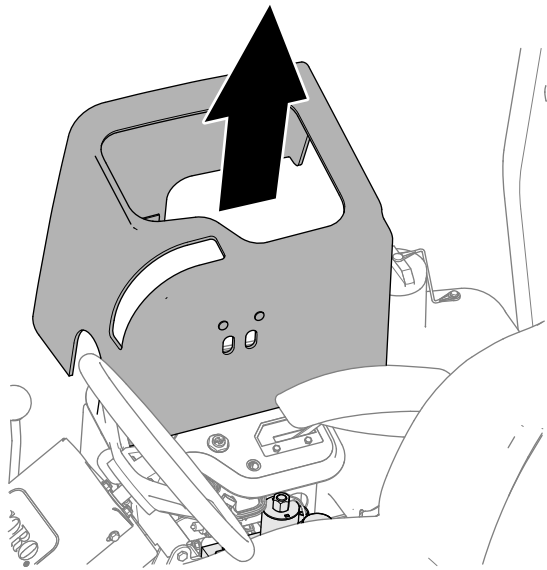

Figure 92
- Lift the magnetically mounted console cover (Figure 92) to expose the mower manifold.